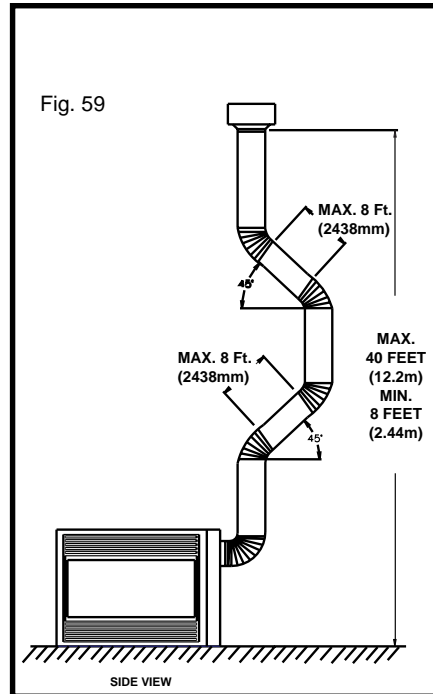

Fig. 59
- d) Two sets of 45 degree elbow offsets within these vertical installations. From 0 to a maximum of 8 ft. a vent pipe can be used between elbows. (Fig. 59)